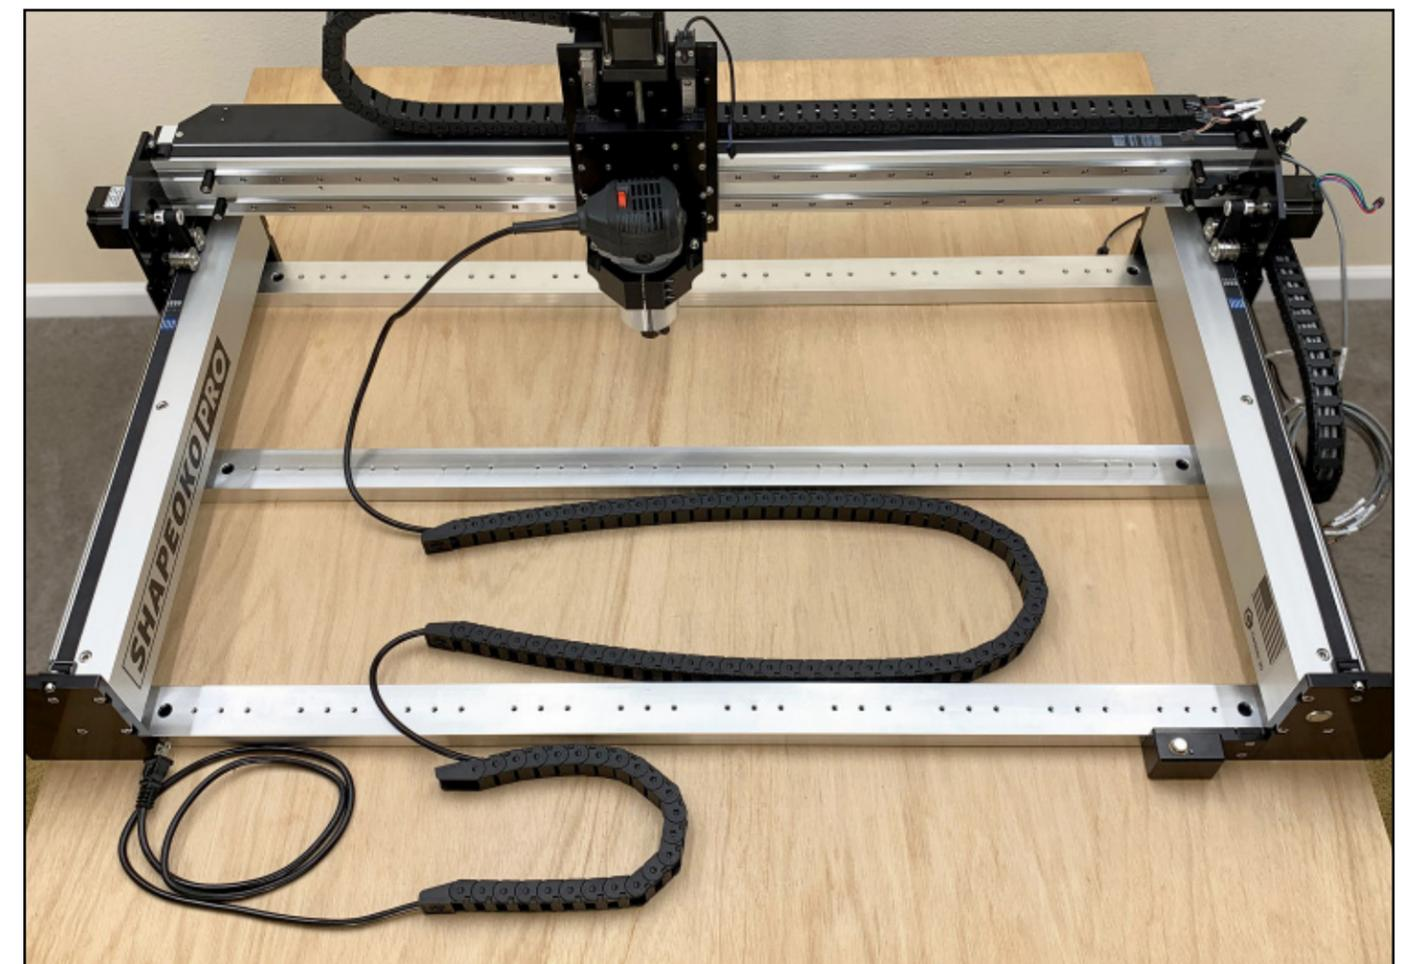

Figure 7-7
1. Insert the router power cable through both drag chains and close up the links. See **Fig. 7-7**.
2. Snap the tail links back onto both drag chains. See **Fig. 7-7**.